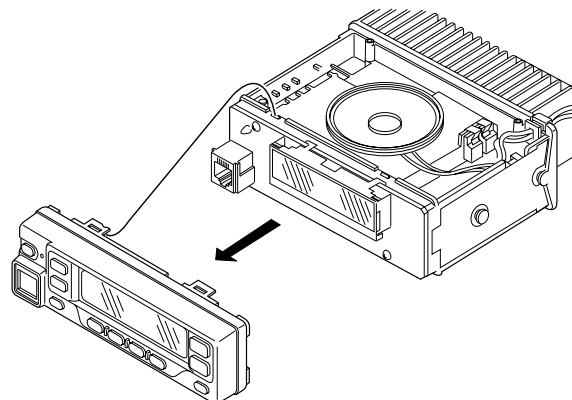

Fig. 12
1. Remove the control panel and the TX-RX unit (B/2) control section. (Fig. 12)